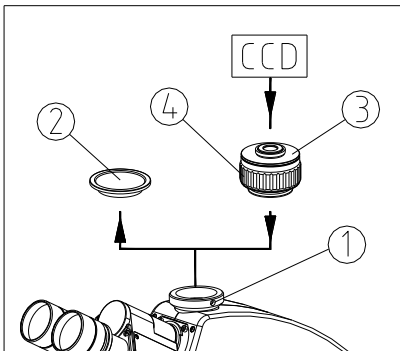

Fig. 14
1. Loosen the lock screw ① of trinocular head, and take out the dust-cover ② (See Fig. 14).
2. Take down the two dust-covers of the TV adapter ③. Insert the TV adapter into the trinocular head as shown in the figure and screw down the lock screw ①.
3. Loosen the lock screw ④ of the TV adapter. Take down the vidicon interface (C type) ⑤ from the TV adapter, and screw into the CCD or camera ⑥. Then assemble the camera on the TV adapter, and screw down the lock screw ④.
4. For binocular observation, after the image is clear, observe the image of CCD. If the image is unclear, rotate the TV adapter ③ for focusing until it is clear.